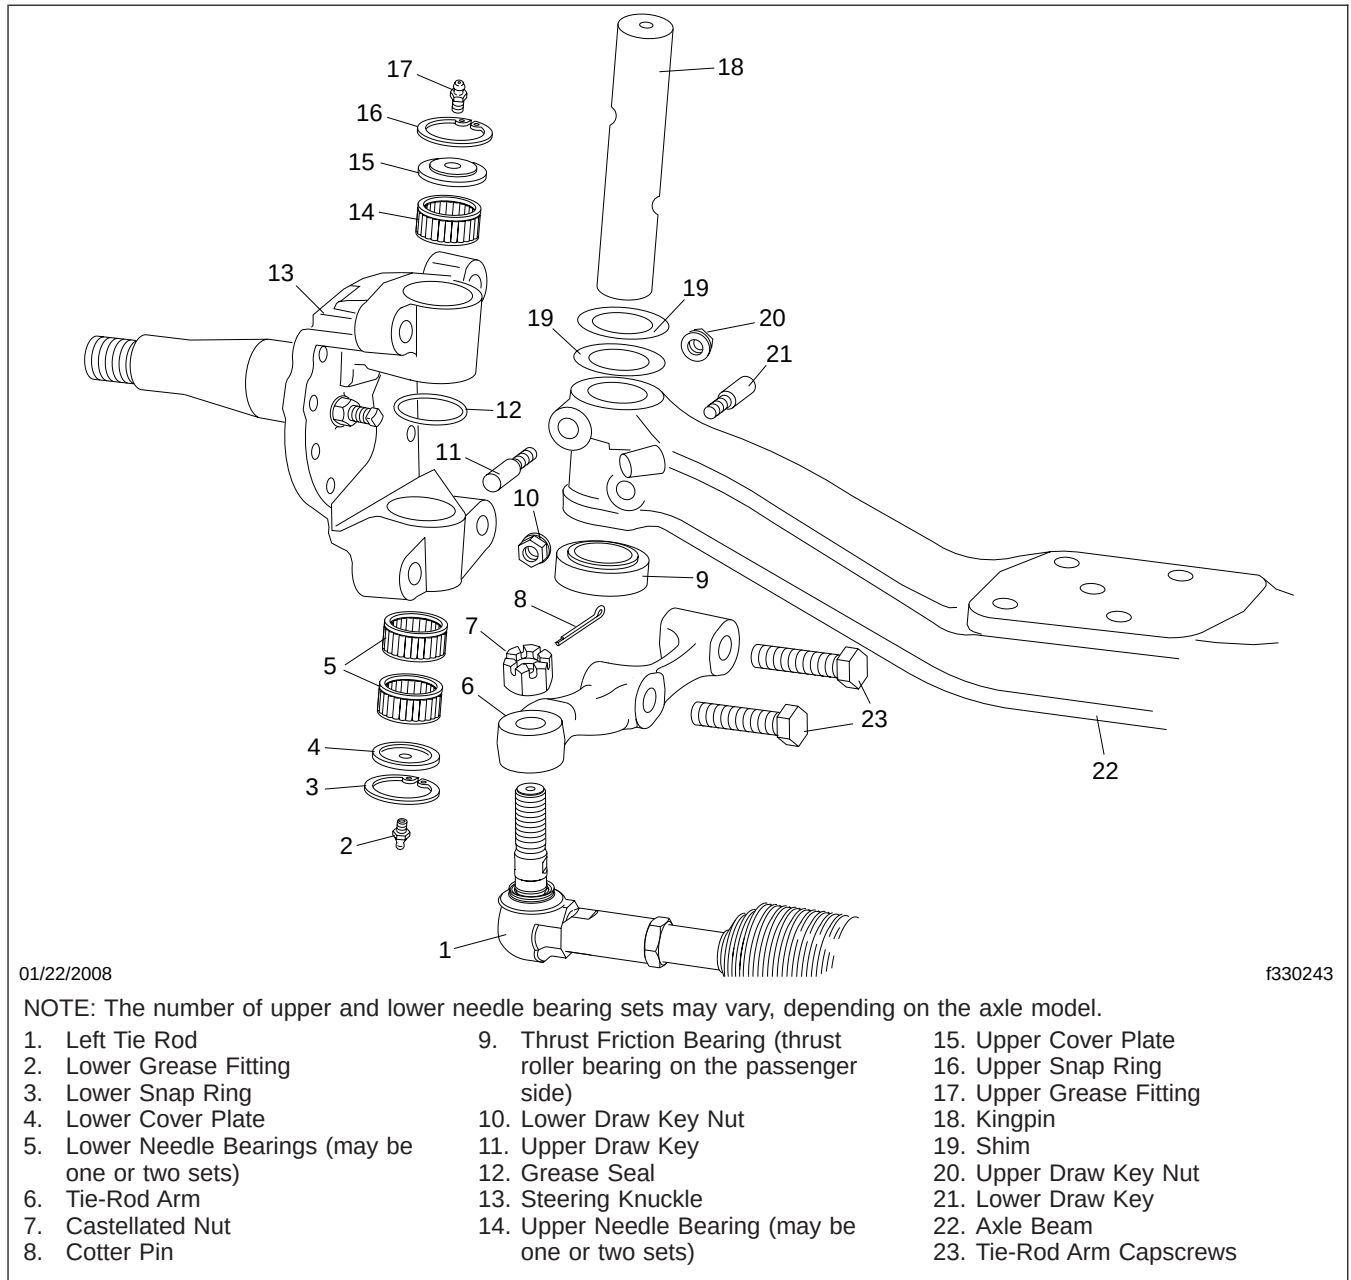

Fig. 2, Front Axle Components, Rack and Pinion Gear (driver side shown)
7. Install new upper and lower draw keys and nuts. See Fig. 1 or Fig. 2.